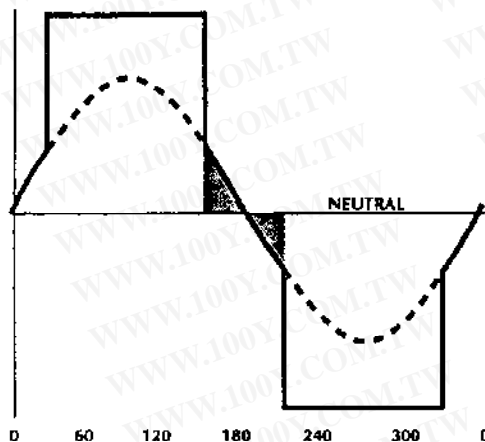

Figure 2. Typical motor phase waveform with Back-EMF superimposed (Ideal Commutation)
The ML4420 contains a patented back-EMF sensing circuit which samples the phase which is not energized (Shaded area in figure 2 below) to determine whether to increase or decrease the commutator (VCO) frequency. A late commutation causes the error amplifier to charge the filter (RC) on pin 20, increasing the VCO input while early commutation causes pin 20 to discharge. Analog speed control loops can use Pin 20 as a speed feedback voltage.